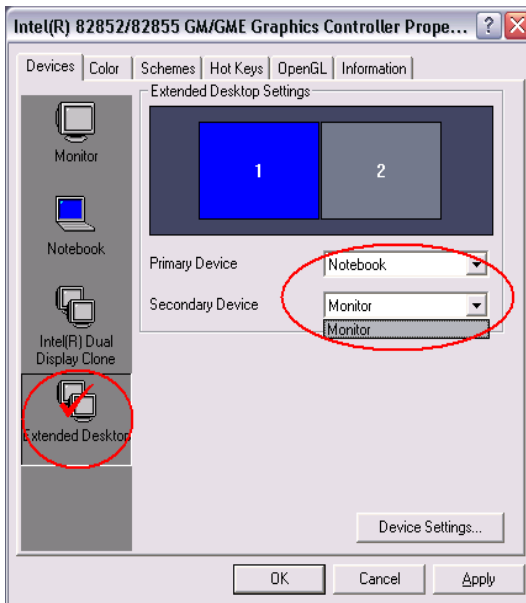

Figure B-2 Intel(R) 82852/82855 GM/GME Graphics Controller Properties
- a. Press **[Ctrl] + [Alt] + [F12]** keys to make **[Intel(R) 82852/82855 GM/GME Graphics Controller Properties]** displayed. (See Figure B-2)
- b. Click  in the left of [Devices] tab (See Figure B-2), then select **[Extended Desktop]**.